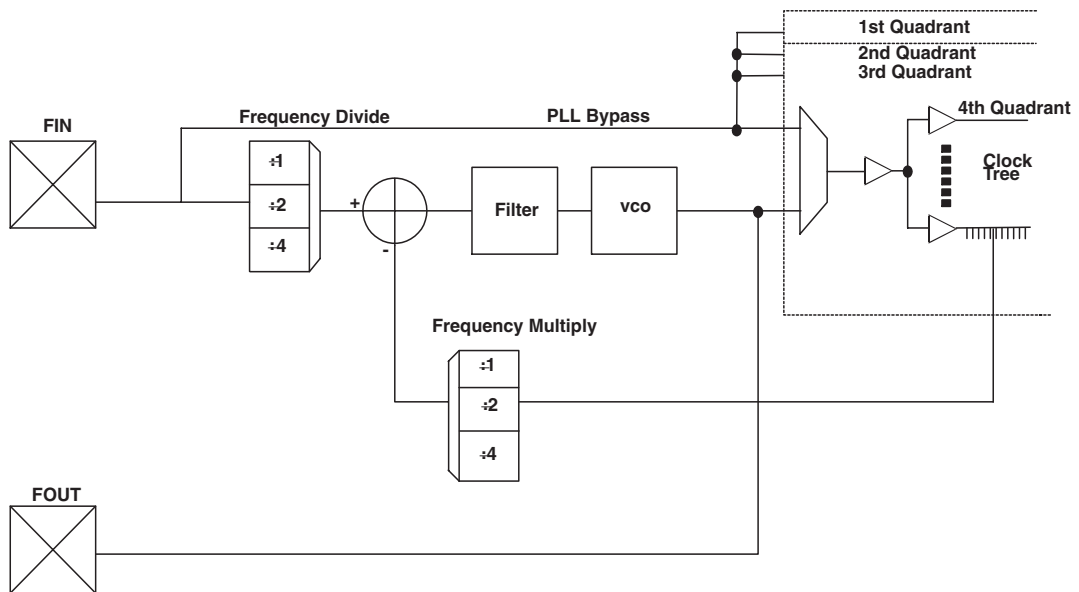

Figure 17: PLL Block
Figure 17 illustrates a typical QuickLogic ESP PLL.
Within the PLL, a voltage-controlled oscillator (VCO) is added to the circuit. The external F_{in} signal and the local VCO form a control loop. The VCO is multiplied or divided down to the reference frequency, so that a phase detector (the crossed circle in Figure 17) can compare the two signals. If the phases of the external and local signals are not within the tolerance required, the phase detector sends a signal through the charge pump and loop filter (Figure 17). The charge pump generates an error voltage to bring the VCO back into alignment and the loop filter removes any high frequency noise before the error voltage enters the VCO. This new VCO signal enters the clock tree to drive the chip's circuitry.
Most QuickLogic products contain four PLLs, one to be used in each quadrant. The PLL presented in **Figure 17** controls the clock tree in the fourth Quadrant of its ESP. As previously noted, QuickLogic PLLs compensate for the additional delay created by the clock tree itself by subtracting the clock tree delay through the feedback path.
a. The data provided in **Table 17** are JEDEC and PCI Specifications. QuickLogic devices either meet or exceed these requirements. See preceding **Table 1** through **Table 13** and **Figure 1** through **Figure 17** for data specific to QuickLogic I/Os.